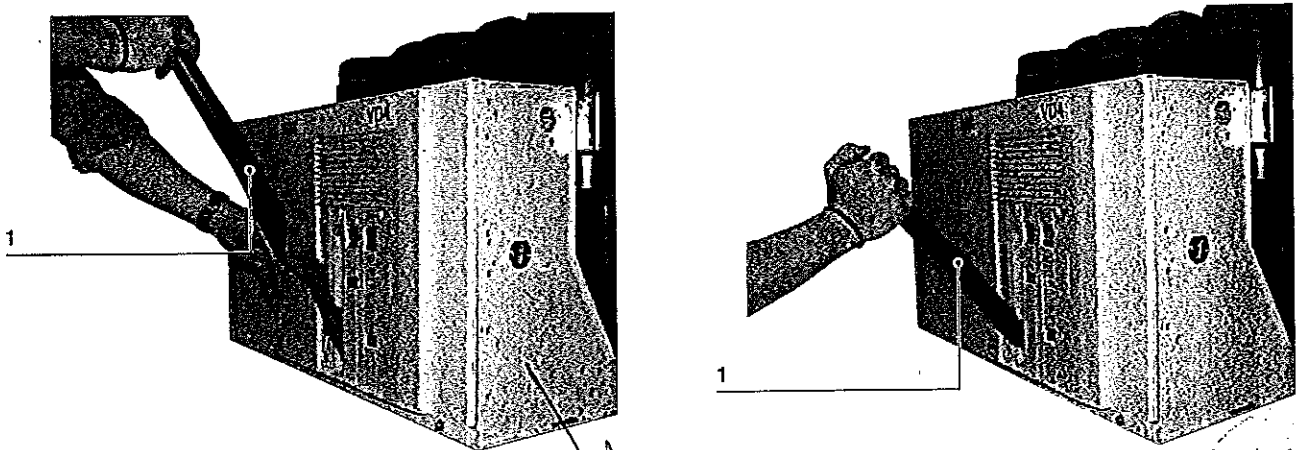

Fig. 7c
EL1 Twin and EL2 Twin type operating mechanisms are provided for circuit-breakers with 50 kA breaking capacity. For manual charging, the additional lever (1) should be inserted fully, as indicated in fig. 7c. In this way, the maximum force to be applied is ≤ 200 N. For the type of operating mechanism, please refer to the rating plate in fig. 1.